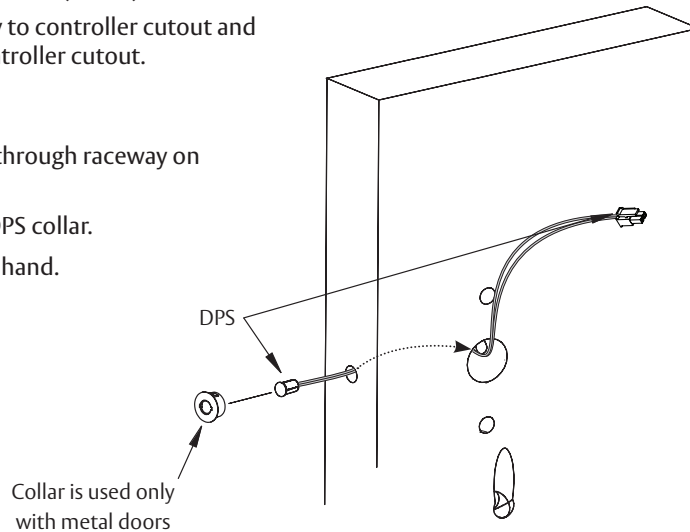

Fig. 14
- b. Insert connector end of DPS through raceway on latch edge of door. (Fig. 14)